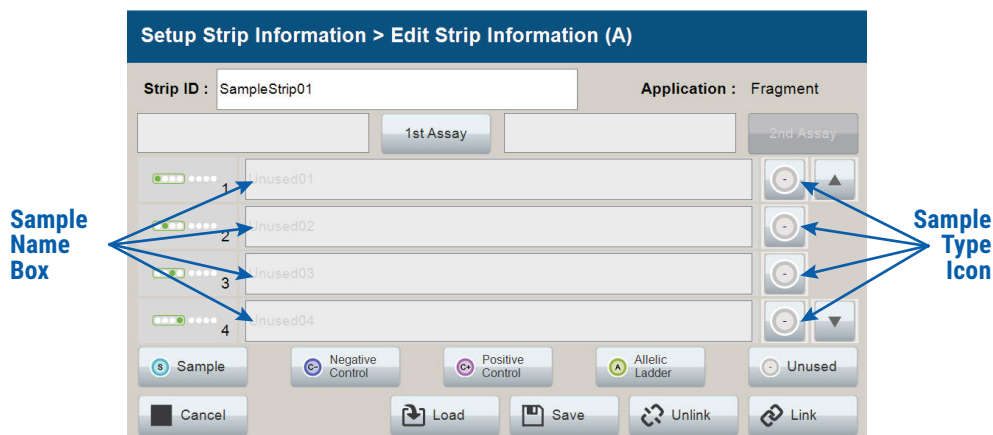
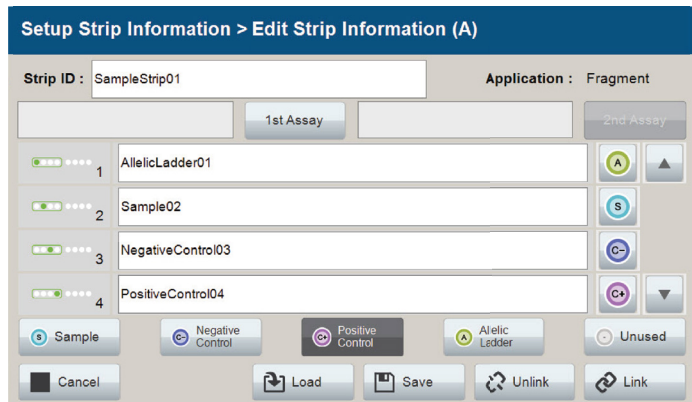
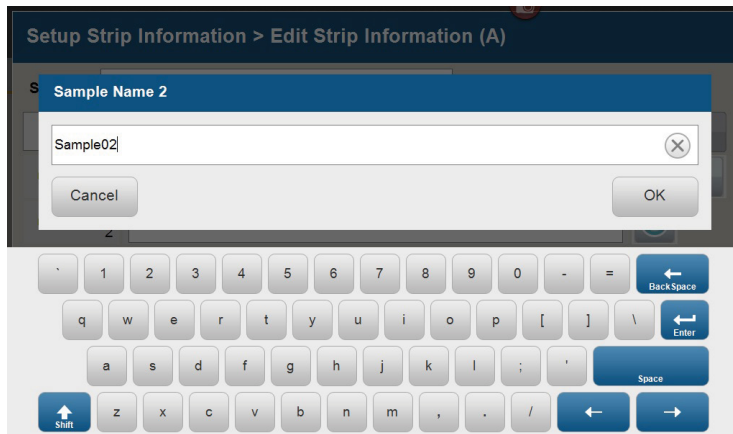
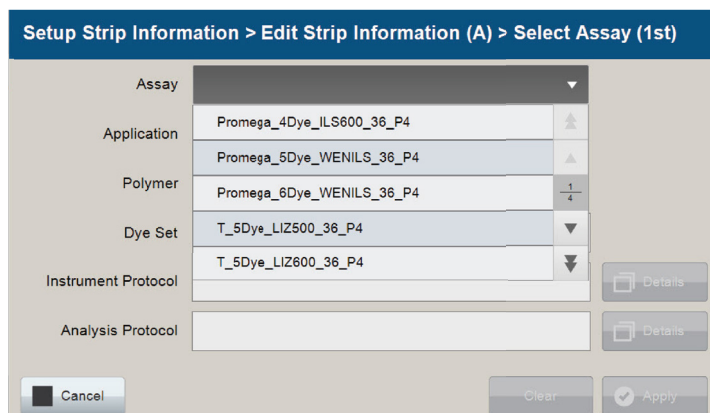

Figure 62. Sample Type and Sample Name on 'Edit Strip Information' screen.
Figure 63. Sample Name Entry on 'Edit Strip Information' screen.
Figure 64. 'Set Sample Name' window.
Figure 65. 'Select Assay' window.
2. Select a sample type on the 'Edit Strip Information' screen (Figure 62). Sample types must be selected for each well position before the **Sample Name** box becomes active for entry of sample name. Sample types available for fragment analysis are as follows.
3. To assign a sample type to a well, select the appropriate sample type button along the bottom of the 'Edit Strip Information' screen (Figure 62), and then select the **Sample Type** icon to the right of the sample name field for the desired well. This icon will then display the sample type selected for that well (Figure 63).
4. Enter a sample name for each well position by selecting the **Sample Name** box adjacent to the well number on the 'Edit Strip Information' screen (Figure 63). This opens the 'Set Sample Name' window, and a keypad will become active on the touch screen (Figure 64). Alternatively, the Sample Name can be entered using a traditional keyboard if one is connected to the Spectrum Compact CE System. Enter the appropriate sample name, and then select **OK** to exit and return to the 'Edit Strip Information' screen. The following table lists rules for characters that can be used for a sample name.
- The Spectrum Compact Control Software includes pre-loaded run assays for use with chemistries available from Promega and other commercial suppliers. To create a new assay or modify an existing assay, see Section 7. To assign a run assay to an injection set, select **1st Assay** on the right side of the 1st Assay field (Figure 63). This opens the 'Select Assay' window (Figure 65). Select an assay from the drop-down list using the scroll buttons to find the appropriate assay.